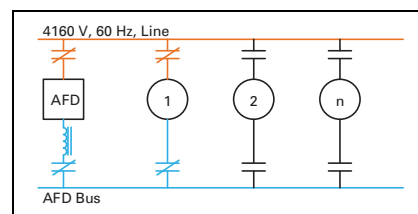

Figure 10.2-8. AFD Synced to Input
- PLC closes motor select (**Figure 10.2-8**)